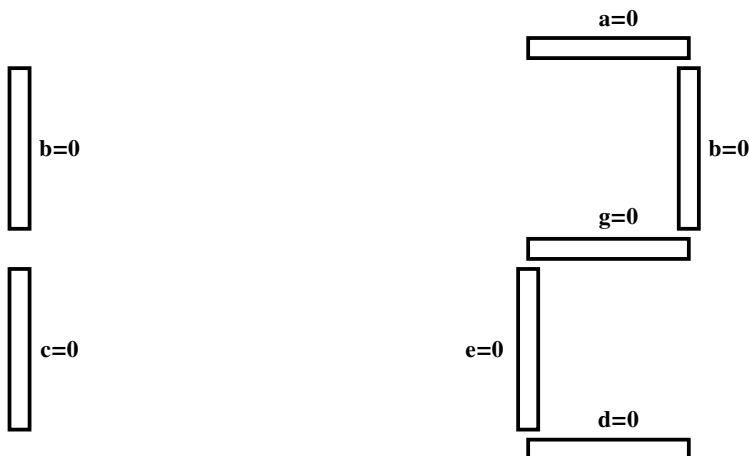

Fig. 2.4: Seven Segment connections
2.2.2 Controlling the Display: Fig. 2.4 explains how to get decimal digits using the seven segment display. GND=0.
3. Draw the numbers 0-9 as in Fig. 2.4 and complete Table 2.4